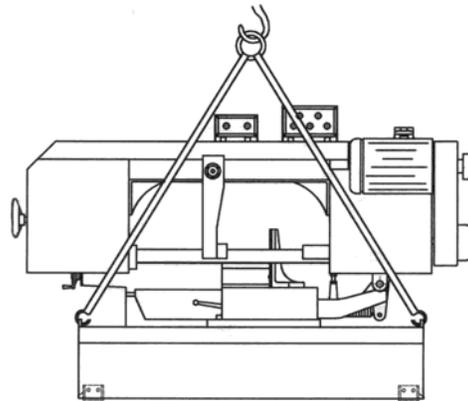

Fig. 1
2. Always keep proper footing & balance while moving this machine, and only use a heavy duty of fiber belt to lift the machine as per Fig. 1.